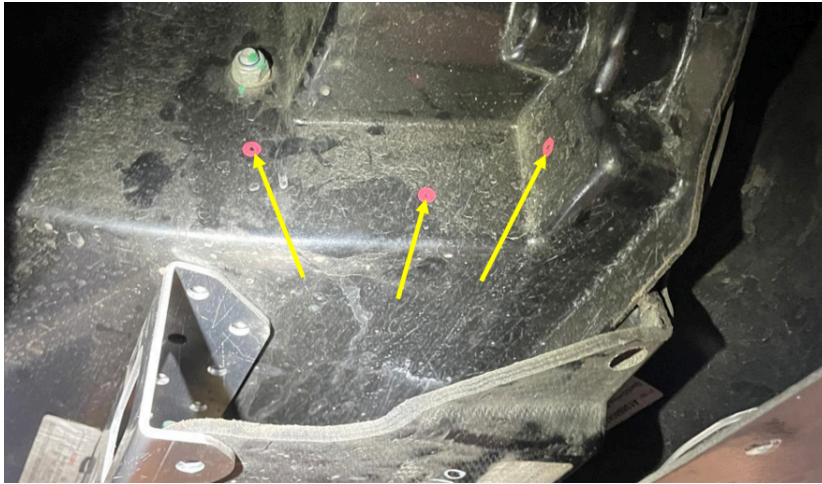

Fig 3: Drilling the holes for the frontsplitter reinforcements (10 & 11).
**!** **NOTE:** The bodywork adhesive (35) needs at least 90 minutes curing time.
3. Place the frontsplitter brackets (12, 13) as shown in Fig 5, mark the holes (Fig. 3) and drill them with  $\varnothing 7\text{mm}$ .